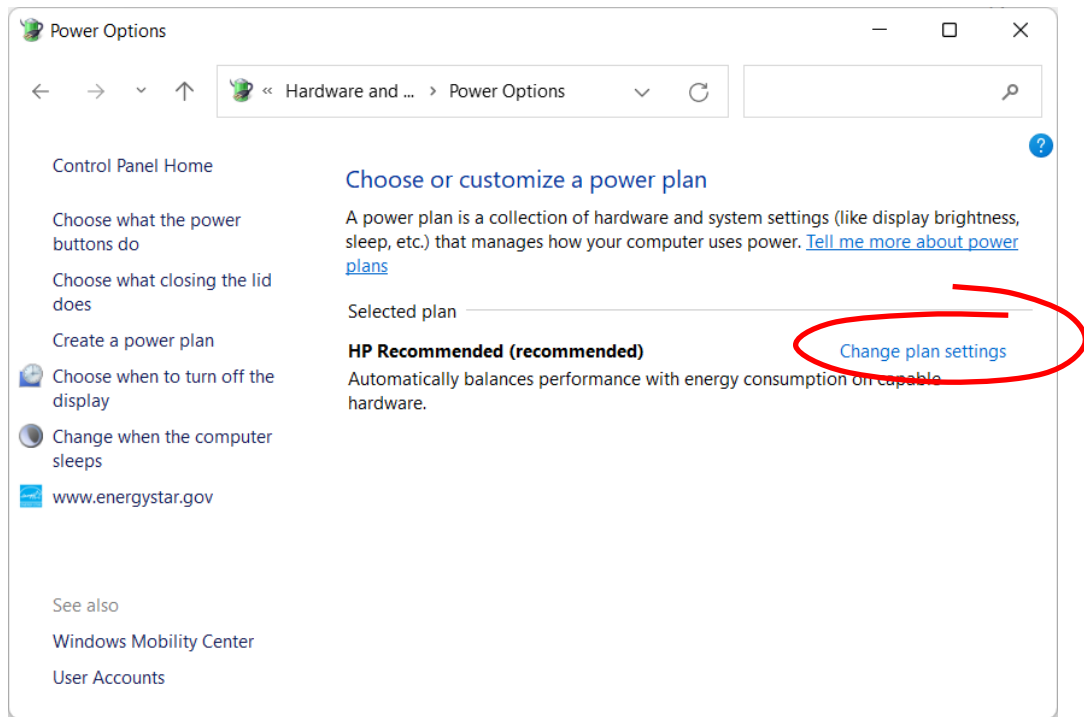

Fig.5.2. Power options dialog
3. Follow the link **Change plan settings** (Fig. 5.2.)